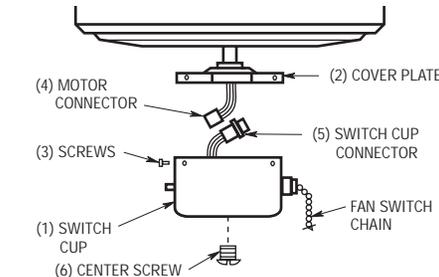
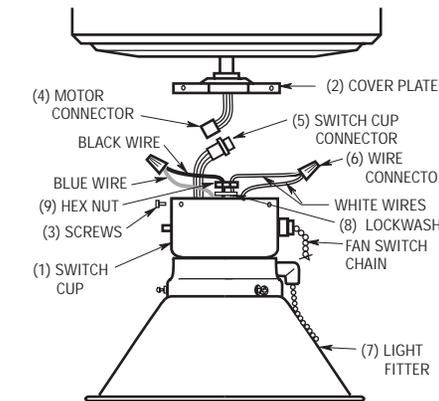

Figure 1
Figure 2
3. Remove the switch cup (1) from the cover plate (2) by removing the three screws (3) around the side of the switch cup (Figure 1).
4. Disconnect the motor connector (4) from the switch cup connector (5).
5. Remove the center screw (6) from the switch cup.
7. Insert the black and white wires from the light fitter (7) through the center hole in the switch cup (Figure 2) and thread the switch cup onto the light fitter. Hold wires taut while installing switch cup to prevent the wires from twisting.
8. Insert the black and white wires through the lockwasher (8) and hex nut (9) (supplied). Firmly tighten the hex nut to secure the light kit fitter to the switch cup.
9. Connect the white wire from the switch cup to the white wire of the light fitter (Figure 2). Connect the blue wire from the switch cup to the black wire of the light fitter. Use listed wire connectors (6) (supplied) to make connections (Figures 2 and 3).
10. Carefully tuck all wires and splices into the switch cup (1). (Figure 2.)
11. Connect the motor connector (4) to the switch cup connector (5).
12. Position the cup/light fitter (1)(7) on the cover plate (2) and install the three screws (3) that were previously removed in step 3 and tighten securely.